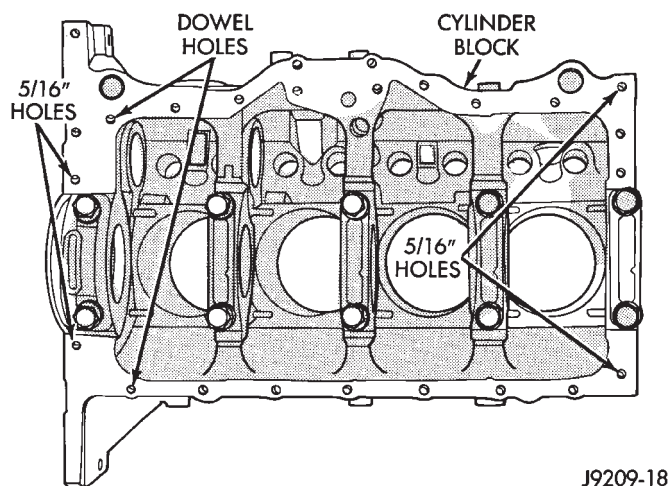
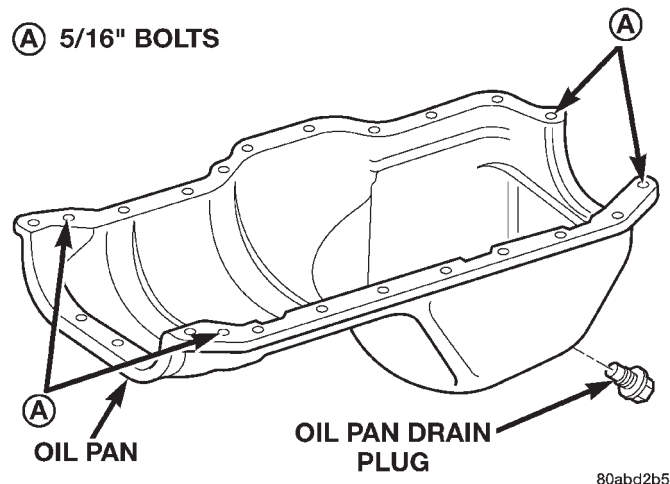

Fig. 58 Position of Dowels in Cylinder Block
Fig. 59 Position of 5/16 inch Oil Pan Bolts
(3) Install two dowels in the timing case cover. Install the other two dowels in the cylinder block (Fig. 58).
(4) Slide the one-piece gasket over the dowels and onto the block and timing case cover.
(5) Position the oil pan over the dowels and onto the gasket.
(6) Install the 1/4 inch oil pan bolts. Tighten these bolts to 9.5 N·m (84 in. lbs.) torque. Install the 5/16 inch oil pan bolts (Fig. 59). Tighten these bolts to 15 N·m (132 in. lbs.) torque.
(7) Remove the dowels. Install the remaining 1/4 inch oil pan bolts. Tighten these bolts to 9.5 N·m (84 in. lbs.) torque.
- (8) Lower the engine until it is properly located on the engine mounts.
- (9) Install the through bolts and tighten the nuts.
- (10) Lower the jack stand and remove the piece of wood.
- (11) Install the flywheel and torque converter housing access cover.
- (12) Install the engine starter motor.
- (13) Connect the exhaust pipe to the hanger and to the engine exhaust manifold.
- (14) Install the oil pan drain plug (Fig. 59). Tighten the plug to 34 N·m (25 ft. lbs.) torque.
- (15) Lower the vehicle.
- (16) Connect negative cable to battery.
- (17) Fill the oil pan with engine oil to the specified level.